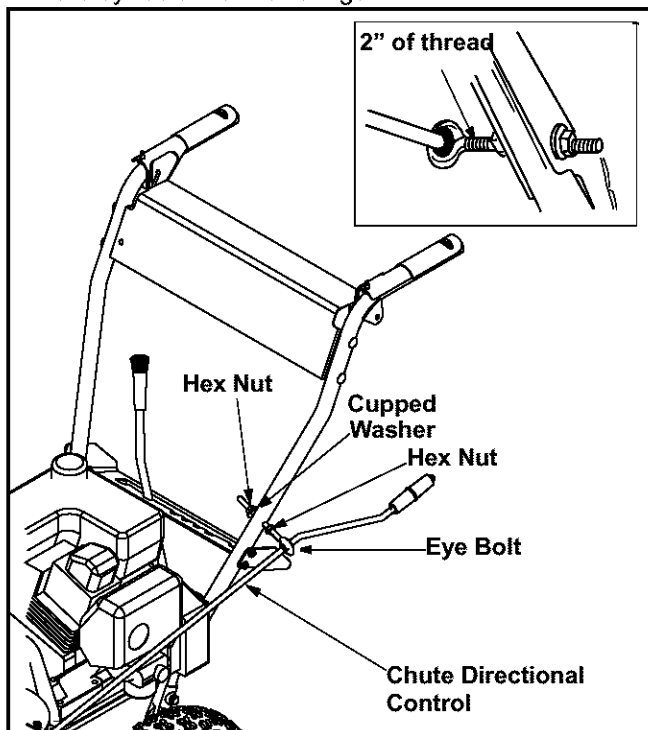

Figure 12
- Thread one hex nut onto the eyebolt on the chute directional control assembly until there is at least two inches of threads showing between the nut and the eyebolt head. See Figure 12.